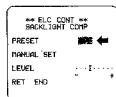

Fig. 61
- Move the cursor to the "PRESET" mode position and select the "OFF" mode by using the Left Switch (<) (9) or Right Switch (>) (8).
- The field setup menu is displayed on the monitor screen as shown in Fig. 61.
- Press the Set Switch (11) when this masking is to be canceled.
- After masking is completed, press the Set Switch(11) for more than 2 seconds and the 25 Mask Areas on the monitor screen disappears and the field setup menu shown in Fig. 61 is then displayed.
- When the video output level (picture contrast) is to be changed, move the cursor to the "LEVEL" mode position and press the Left Switch (<) (9) and Right Switch (>) (8) to adjust the exposure time of the CCD image sensor. The cursor "I" moves right (long) or left (short) corresponding to the video output level (exposure time).